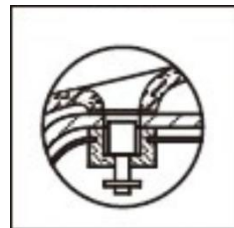

Figure 16
During this time cooking continues so it is recommended for certain cuts of meats, soups, rice, and some desserts. When pressure has fully released, the Float Valve (4) will drop (Figure 16) and the lid will unlock to open. As a safety feature, the lid will not open unless all pressure is released. Do not force the lid open. If the lid feels tight, please allow additional time for pressure to fully release before attempting to open the lid.